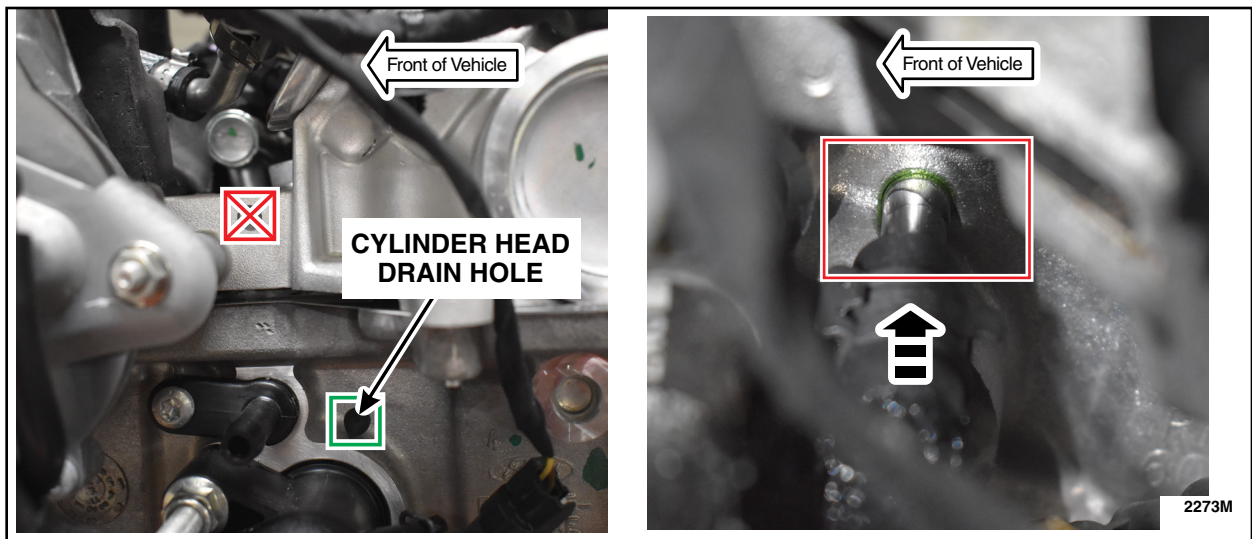

FIGURE 15
18. Insert tube into the cylinder head drain hole until fully seated against the larger diameter flange section, as shown. See Figure 15.